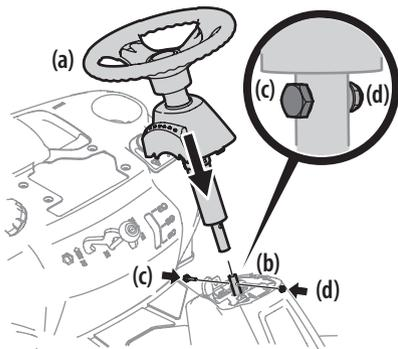

Figure 3
4. Lower the steering wheel assembly (a) onto the lower steering shaft (b) and secure with the shoulder bolt (c) and lock nut (d) previously removed. See Figure 3.